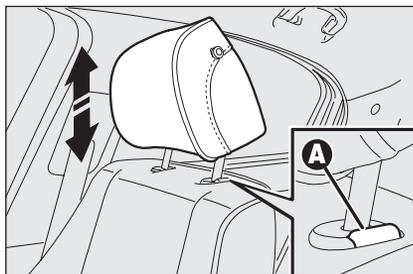

fig. 34
### FRONT HEAD RESTRAINTS fig. 34
- press buttons **A-fig. 34** (set aside the two head restraint supports) then remove the head restraints by pulling them upwards.